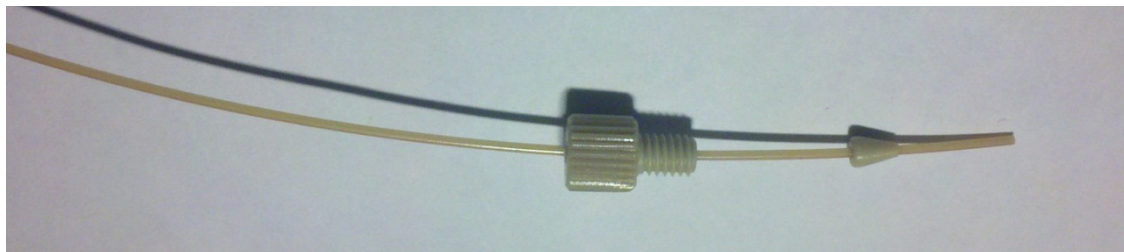

Figure D-5 Buffer Tubing Fittings at the 6-port Valve
3. Place a small PEEK ferrule on the tubing as shown in Figure D-5.